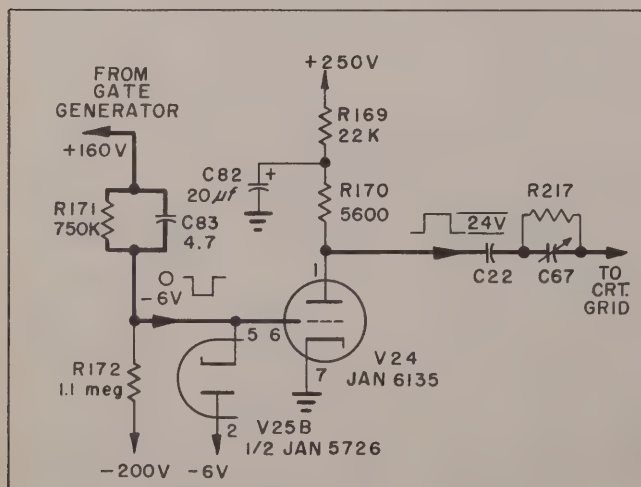

Figure 2—16. Intensity Gate Amplifier—Simplified Schematic
Figure 2—16 shows the intensity gate amplifier. It consists of V24, a JAN 6135 triode. An attenuated portion of the negative gate from the enabling gate generator is DC coupled to the grid of V24. The duration of this gate is, therefore, the same as the duration of the SWEEP and varies with SWEEP RANGE and FINE SWEEP settings. This negative gate, which is essentially a negative square wave, is further squared off by clipping at the zero level by diode action from cathode to grid of V24 and is clamped at  $-6V$  by diode V25B. The square wave is then amplified and inverted and the resultant positive square wave is coupled to the grid of the cathode ray tube via capacitor C22. R170 is the plate load resistor while R169 in conjunction with C82 provides low frequency compensation.
Figure 2—17 shows the circuits of the marker generator and amplifier. The tubes used are V18 and V21, each a JAN 12AT7WA duo-triode, V20, a JAN 6135 triode and V22, a JAN 6AH6 pentode. V21 is a cathode coupled multivibrator whose time constants  $C_a$  and  $R_a$  are selected by MARKER  $\mu S$  switch S13. The operating conditions for each half of the tube are selected
a. Figure 2—18 shows the trigger generator circuit, which consists of V23 JAN 12AU7, a duo-triode with both sections connected in parallel, pulse transformer T2, and associated circuits. Its function is to provide pulses of different repetition rates for triggering the